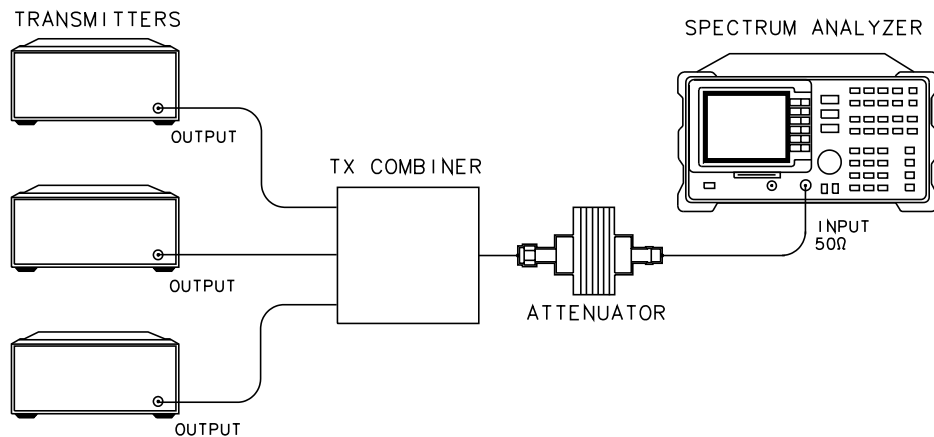

Figure 34 Test Setup for Intra-BSS Intermodulation - TX Band
- 1 Refer to Figure 34 on page 77 for the test setup.